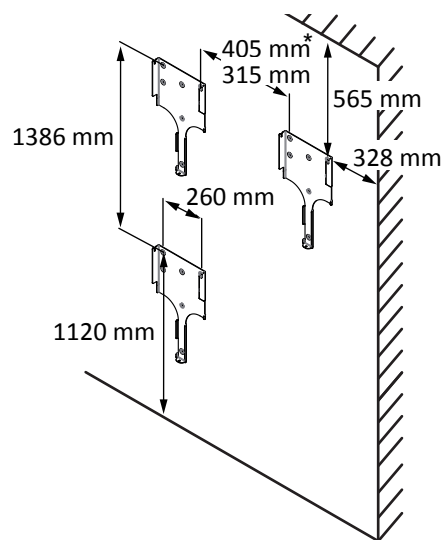

Fig. 8: Position of wall bracket / suspension
- Minimum clearances to be observed during installation: [See figure 8] ▶ Page 15]